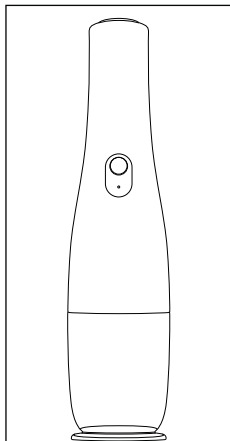

Fig. 5
6. For storage, stand the appliance on the cap **1**, which can also be used as a stand (see Fig. 5).